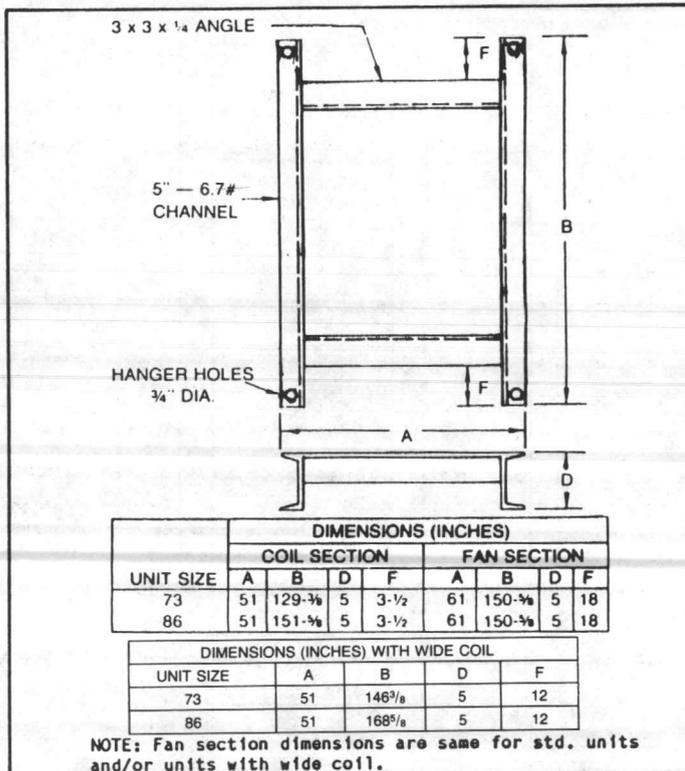

FIGURE 13 - Ceiling Suspension Mounting Frame and Dimensions for Unit Sizes 73 and 86 (Two Frames are Required for Each Unit)
**Note:** Because of their weight, unit sizes 3-31 (wide coil only) and 35-86 (wide coil and standard units) require suspension support frames, to be provided by the installer. Figures 11A, 12 and 13 give the configuration and dimension of these frames. Note that two frames are required for sizes 73 and 86. See Figure 13.
7. Horizontal Unit Sizes 73-86 — Set the coil and fan section on each of the prepared support frame. See Figure 13. Attach the splash guard and fasten the flexible connector to the fan section. See Figure 8. Panel removal may be necessary to attach splash guard.